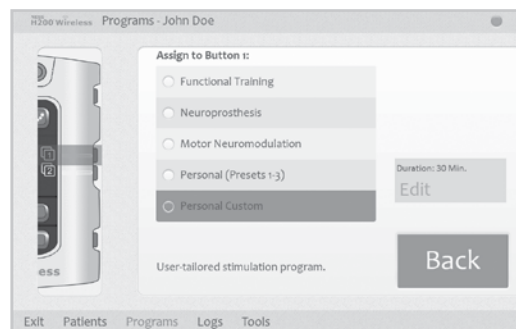

Figure 8-28: Assign to Button 1 Window
2. The Assign to Button 1 or Assign to Button 2 window will open. Select Personal Custom and press the Edit button. See Figure 8-28.